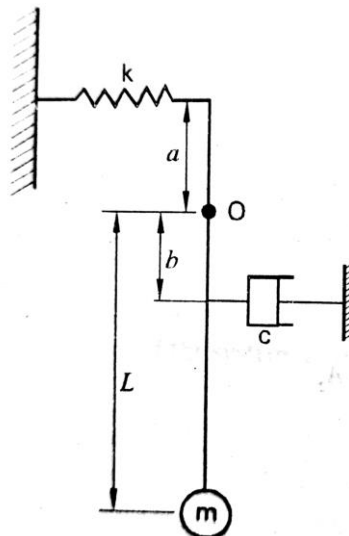

Figure 1
- b) Set up a differential equation of motion for the system shown in figure 1 and solve the differential equation for (i) critical damping coefficient (ii) Damped natural frequency **10**